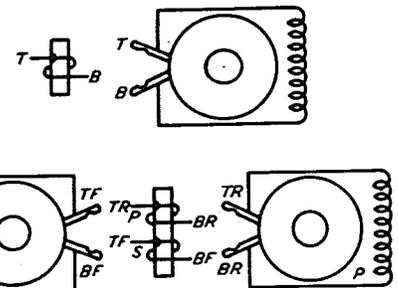

FIG. 29-WINDING TERMINAL ARRANGEMENT AS VIEWED FROM THE REAR-225 TYPE AND SIMILAR A.E. CO. RELAYS
2.43 The winding terminals are indicated by T (top) and B (bottom) with the spring combination uppermost. On relays with more than two winding terminals, the letters T and B are followed by the letters F (front) and R (rear), the armature end of the relay being considered the front. The springs in an assembly are consecutively numbered outward from the frame on which the assembly is mounted. Fig. 29 shows the winding terminal arrangement as viewed from the rear.